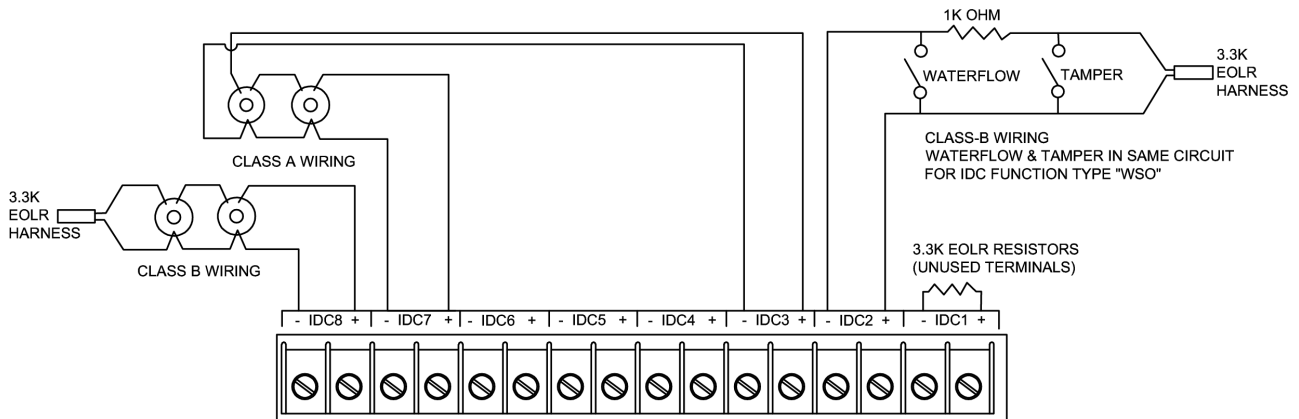

Figure 11: IDC wiring
1. Route the wire from the **- IDC1 +** terminals of the system board to the appropriate inputs on a peripheral initiating appliance. See Figure 11.
1. Route the wire from the - **IDC1 +** terminals on the system board to the appropriate inputs on a peripheral initiating appliance. See Figure 11.